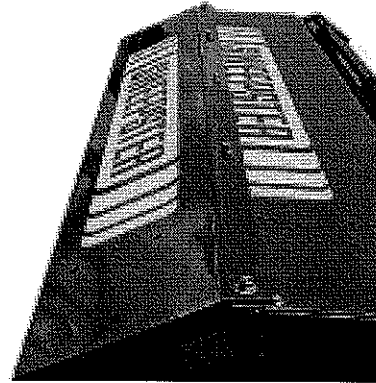

figure 45
3. Attach the deflector plate to the hood with a 3/8-16 x 1 cap screw, 2 flat washers, a lock washer and nut for each slot (figure 45).